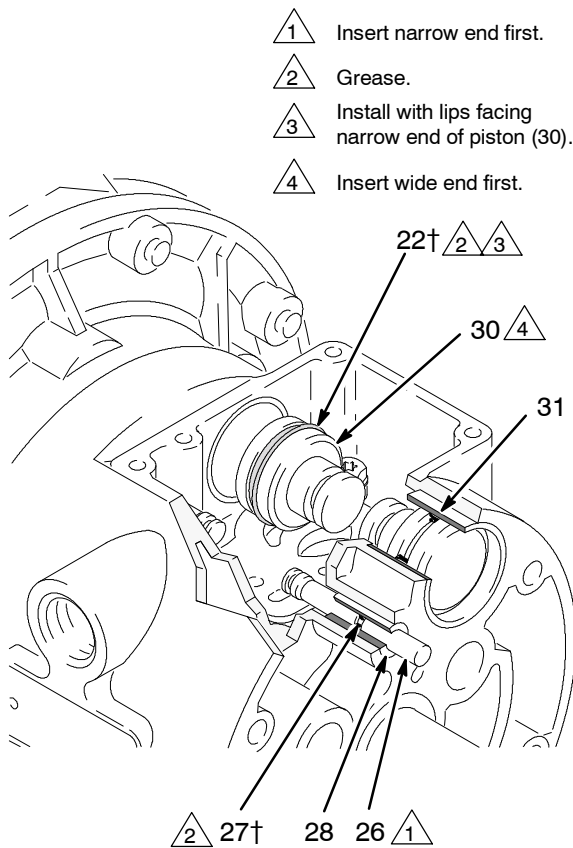

Fig. 10 02643
4. Pull the two actuator pistons (30) out of the bearings (31). Remove the u-cup packings (22) from the pistons. Pull the push pins (26) out of the bearings (28). Remove the o-rings (27) from the push pins. See Fig. 10.
6. Inspect the bearings (28, 31) in place. See Fig. 10. The bearings are tapered and, if damaged, must be removed from the outside. This requires disassembly of the fluid section. See page 22.
4. Install an o-ring (27†) on each push pin (26). Grease the pins and o-rings. Insert the pins into the bearings (28), **narrow** end first. See Fig. 10.
5. Install a u-cup packing (22†) on each actuator piston (30), so the lips of the packings face the **narrow** end of the pistons. See Fig. 10.
6. Lubricate the u-cup packings (22†) and actuator pistons (30). Insert the actuator pistons in the bearings (31), **wide** end first. Leave the narrow end of the pistons exposed. See Fig. 10.